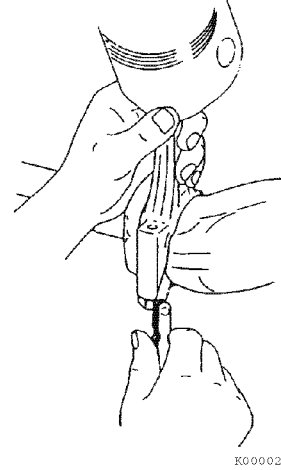

Figure 6-53
- Using a feeler gauge, measure the connecting rod side clearance as shown (**Figure 6-53**). See *Connecting Rod* on page 6-14 for the standard limit. If the measurement is out of specification, replace the crankshaft, connecting rod, or both.